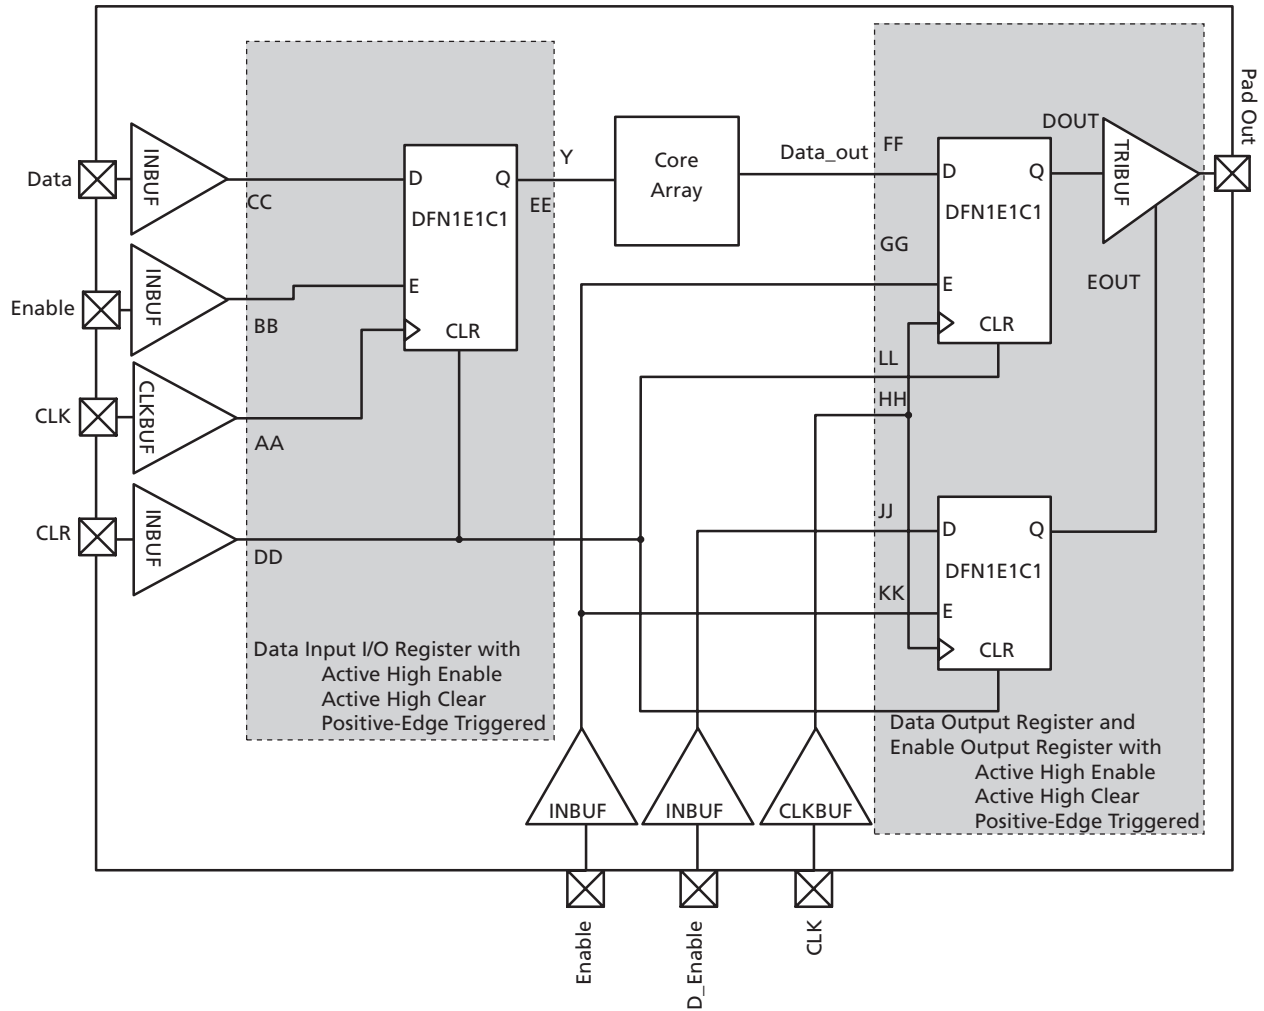

Figure 2-27 • Timing Model of the Registered I/O Buffers with Synchronous Enable and Asynchronous Clear
* See Figure 2-27 on page 2-79 for more information.